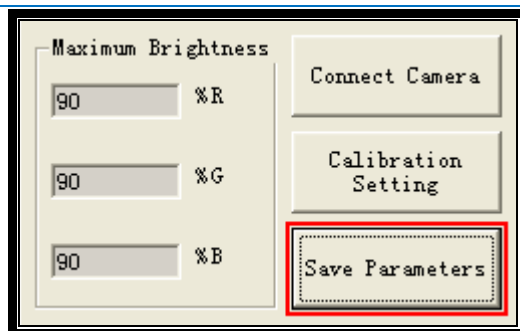

Fig.3-14
Step13: Click the “Save Parameters” button, as shown in fig.3-14, the parameters filled in above will be saved.